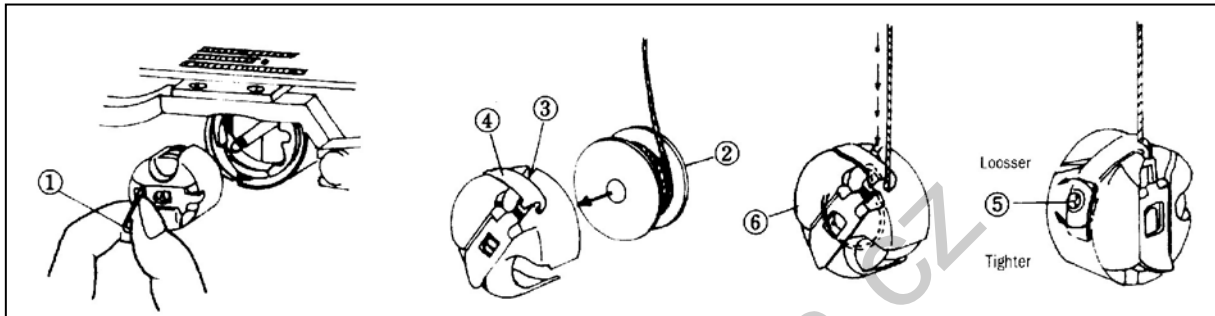

Fig.13
8.2 Hold the bobbin case handle (6) and insert it into hook. Pull the handle (6) to remove. (The bobbin will fall out if the handle is let go). (Fig.13)